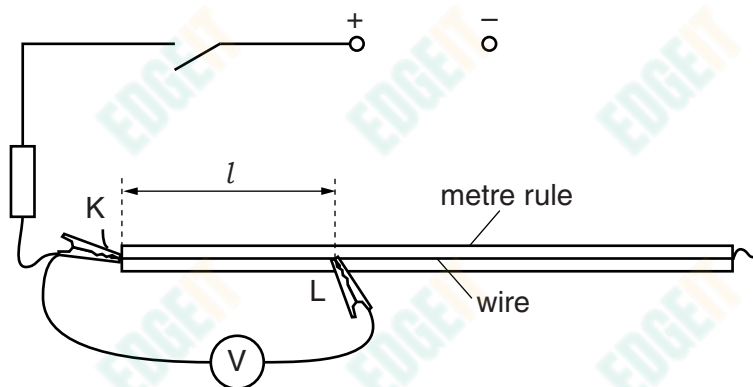

Fig. 1.1
- (b) (i)** Use the wire attached to the metre rule, one of the voltmeters and one of the resistors to set up the partial circuit shown in Fig. 1.1.